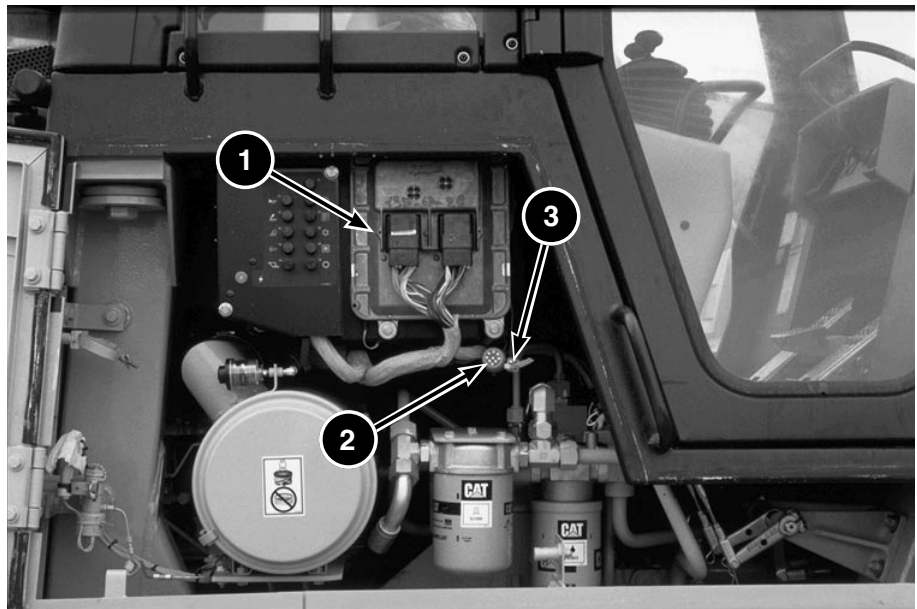

Fig. 3.5.7 953C Track Loader Power Train Electronic Control Module (ECM)
Figure 3.5.7 shows the power train Electronic Control Module (ECM) (1) that replaces the mechanical linkage used on the 953/953B Hydrostatic Power Control Unit (HPCU). The ECM receives input information such as engine speed, machine direction, steering pressures, braking pressures and temperatures. Using the input information, the ECM makes calculations and energizes solenoids to control the power train hydraulic system.